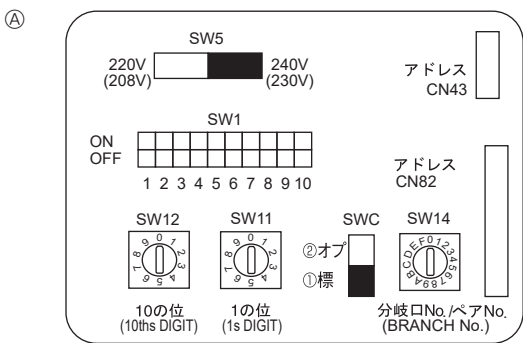

Fig. 5-4
5.5. Setting addresses (Fig. 5-4)
- ① How to set addresses
- ② How to set branch numbers SW14 (Series R2 only)
③ Address board
5.6. Sensing room temperature with the built-in sensor in a remote controller (Fig. 5-4)